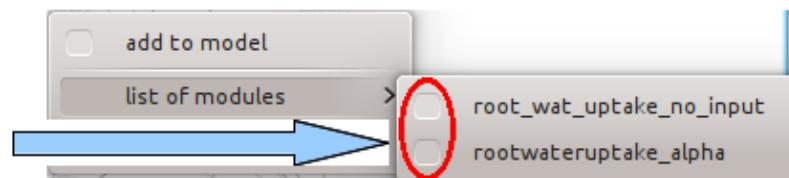

Figure 40: Direct access to the list of modules implementing the selected process
2. The second way is to select directly from the context menu the module in the list of modules implementing the selected process. To do this, select “List of modules” in the contextual menu and then check the box corresponding to the desired module (see figure 40). Once the module has been selected, you will notice that the graphic symbolisation of the process has been modified (see first way of proceeding above).